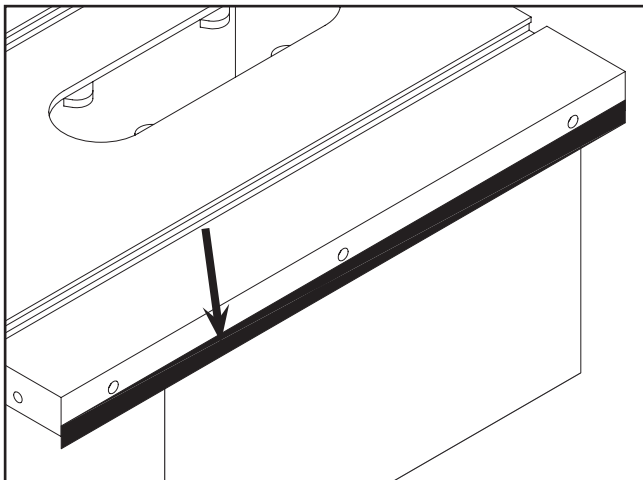

Figure 24. Masking tape location for adjusting extension table up.
- If either extension wings tilts down, loosen it and place a strip of masking tape along the bottom edge of the table (**Figure 24**).